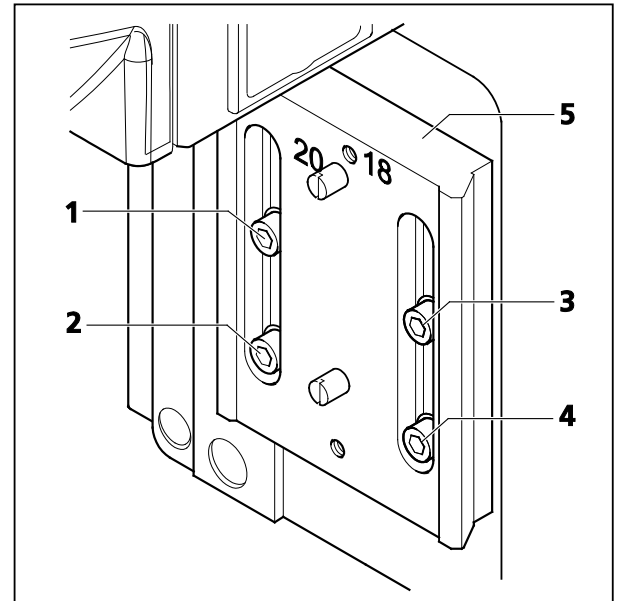

Fig. 31 Setting the dovetail guide up for specimen space expansion
- **Loosen** the four clamping screws (Fig. 31/1 to 4) of the dovetail guide.
- Move the guide plate (Fig. 31/5) as far **up** as it will go in the slots.
- upper left screw (Fig. 31/1),
- lower left screw (Fig. 31/2),
- upper right screw (Fig. 31/3),
- lower right screw (Fig. 31/4),